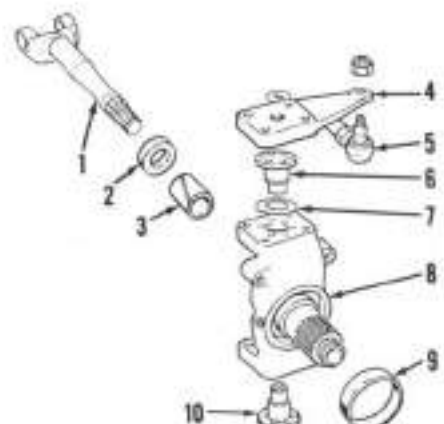

Fig. 8—Exploded view of David Brown front drive stub axle showing component parts and their relative positions.
10. FINAL DRIVE AND STUB AXLE. Left and right final drive removal procedure is similar. To remove, raise and support side to be serviced and remove tire and wheel. Rotate hub so drain plug is at bottom and drain fluid. Remove end plate (12—Fig. 7) and use pry bars to pull sun gear (15) and shaft (1—Fig. 8) out approximately 5 mm ($\frac{3}{16}$ inch).
Remove steering lever (4—Fig. 8) and bolts retaining upper and lower bearing pins (6 and 10). Remove bearing pins
Remove seal (2—Fig. 8) from inside stub axle (8). Using a suitable bushing driver, drive bushing (3) out oil seal end of stub axle. Install new bushing from seal end until it seats in stub axle. Install new oil seal with lip of seal entering bore first.
To set bearing pin preload, reassemble unit minus shims (7—Fig. 8). Tighten lower bearing pin mounting bolts to 68 N·m (50 ft.-lbs.) torque and upper bearing pin mounting bolts to 20 N·m (15 ft.-lbs.) torque. Push stub axle up tight against bottom of axle housing and use a feeler gage to measure gap between upper bearing pin flange and stub axle. See Fig. 9. Remove upper bearing pin, then assemble shims so total thickness is 0.281 mm (0.011 inch) less than feeler gage measurement. This will correctly preload bearings to 0.10-0.15 mm (0.004-0.006 inch) when full load is on axle. Tighten upper bearing pin bolts to 68 N·m (50 ft.-lbs.) torque. Refer to paragraph 11 to set stub axle bearing preload.